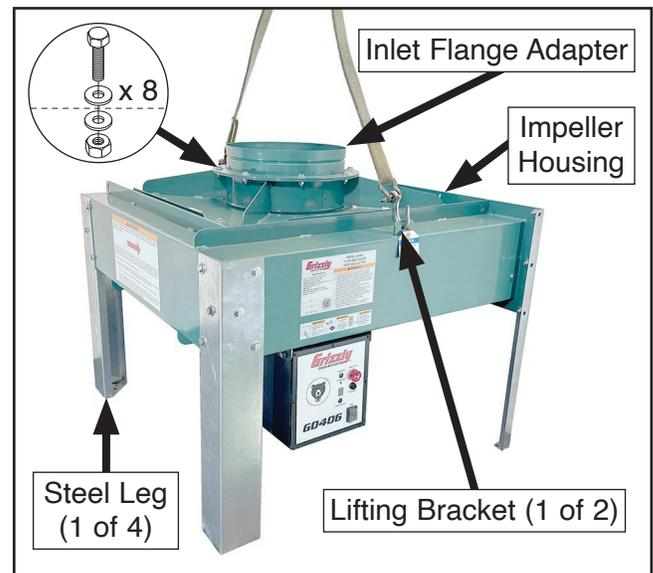

Figure 33. Location of inlet flange adapter, lifting brackets, and pre-installed steel legs.
- Place (1) vibration pad under each leg.
- Install inlet flange adapter to impeller housing with (8) $\frac{3}{8}$ "-16 x 1" hex bolts, (16) $\frac{3}{8}$ " flat washers, and (8) $\frac{3}{8}$ "-16 hex nuts, as shown in **Figure 33**.
- Attach lifting straps to brackets on front and rear of impeller housing (see **Figure 33**).
- Lift impeller housing 45" from ground, then remove pallet, and remove (4) pre-installed steel legs (see **Figure 33**). Save fasteners for later use.